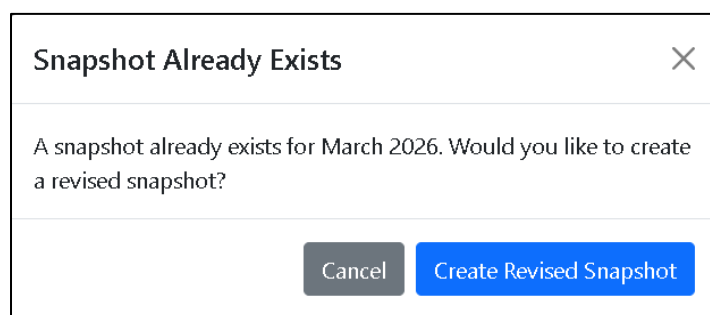

Figure 27: Snapshot exists message
- **Regenerate Subsequent Snapshots:** This prompt (fig. 27) will appear when a historical reporting period is being revised, thereby impacting all subsequent cumulative values of future reporting periods and possibly rendering these periods stale. In most cases, it is recommended to select Regenerate Subsequent Snapshots so that reporting periods after the revised period will include the updated information. Cases where you would want to maintain existing snapshots could be where data errors are known in other periods and you wish to revise them on a month-by-month basis.